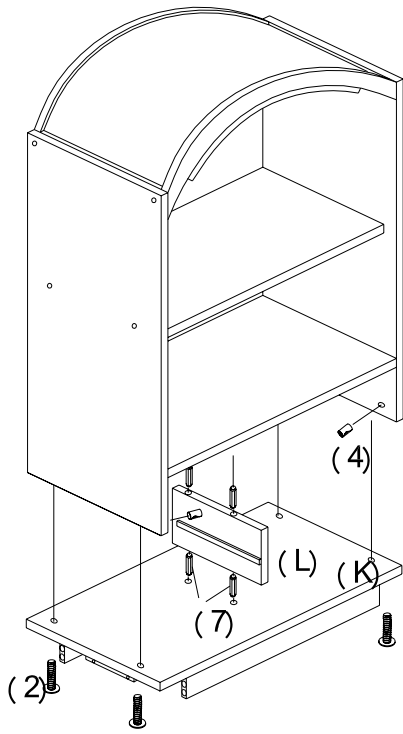

FIGURE 3
- INSERT SMALL WOOD DOWELS (7) INTO PREDRILLED HOLES ON TOP EDGE OF DIVIDER (L) AND FIT INTO CORRESPONDING HOLES ON UNDERSIDE OF LOWER FIXED SHELF (E) AND UPSIDE OF BOTTOM PANEL (K). INSERT T-BOLTS (4) INTO PREDRILLED HOLES BOTTOM EDGES OF UPPER LEFT AND RIGHT SIDE PANELS (B, C). TIGHTEN LARGE MACHINE SCREWS ($\text{\O}1/4\text{''}\text{X}1\text{-}1/2\text{''}$) (2) THROUGH PREDRILLED HOLES ON UNDERSIDE OF BOTTOM PANEL (K) INTO T-BOLTS (4). PLEASE NOTE THAT IF SCREWS DO NOT TIGHTEN, ROTATE T-BOLTS (4) SO THAT THE THREADS OF T-BOLTS (4) ARE FACING SCREWS. (AS SHOWN IN FIGURE 3)